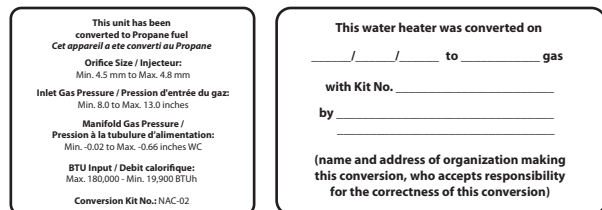

Figure 11. Proper Placement of Gas Conversion Labels
12. Once the CO₂ or offset values have been confirmed, apply the included conversion stickers to show that the appliance has been converted to propane gas. Place this labels adjacent to the rating plate as shown in Figure 11.